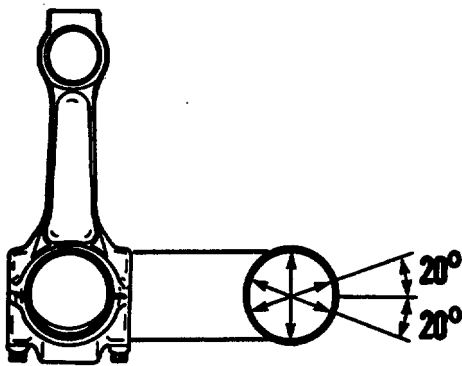

FIGURE 4-68. Connecting Rod Bore Measurement.
- (9) Use a dial bore indicator. Measure the inner diameter of the connecting rod bearing bore. Measure at 90 degrees from the parting line and within a 20-degree arc from each side of the parting line (FIG. 4-68).